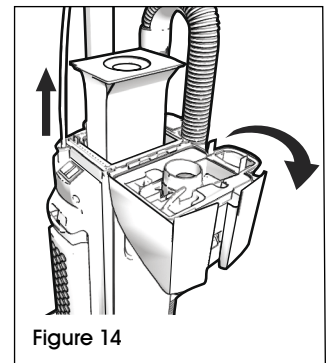

Figure 14
2. Pull the dust bag straight up to remove. Insert new bag and close the cover, making sure the latch locks into the handle. (See Figure 14)